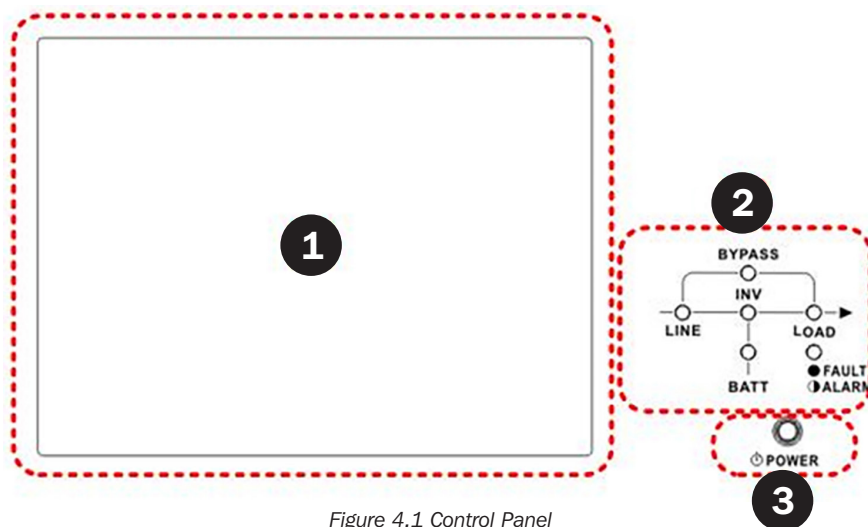

Figure 4.1 Control Panel
The control panel and display screen are located on the UPS front panel. This interface monitors all measured parameters, UPS status, battery status and alarms. The control interface is divided into four sections: (1) LCD panel, (2) LED indicators, (3) Power Button and (4) Audible Alarm. Refer to Figure 4.1.